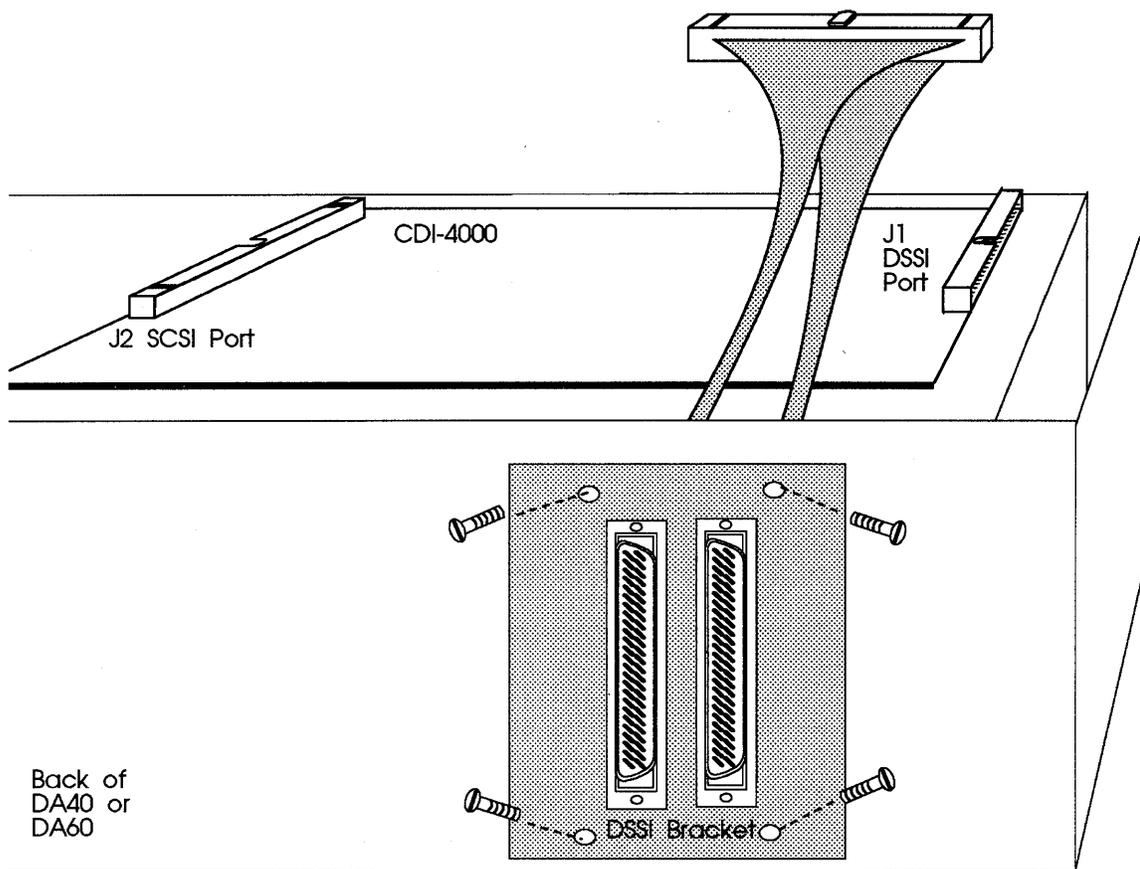

Figure 6-4: Installing the DSSI bracket
- 15 Put four screws into the DA40 or DA60 through the DSSI bracket as shown in Figure 6-4.